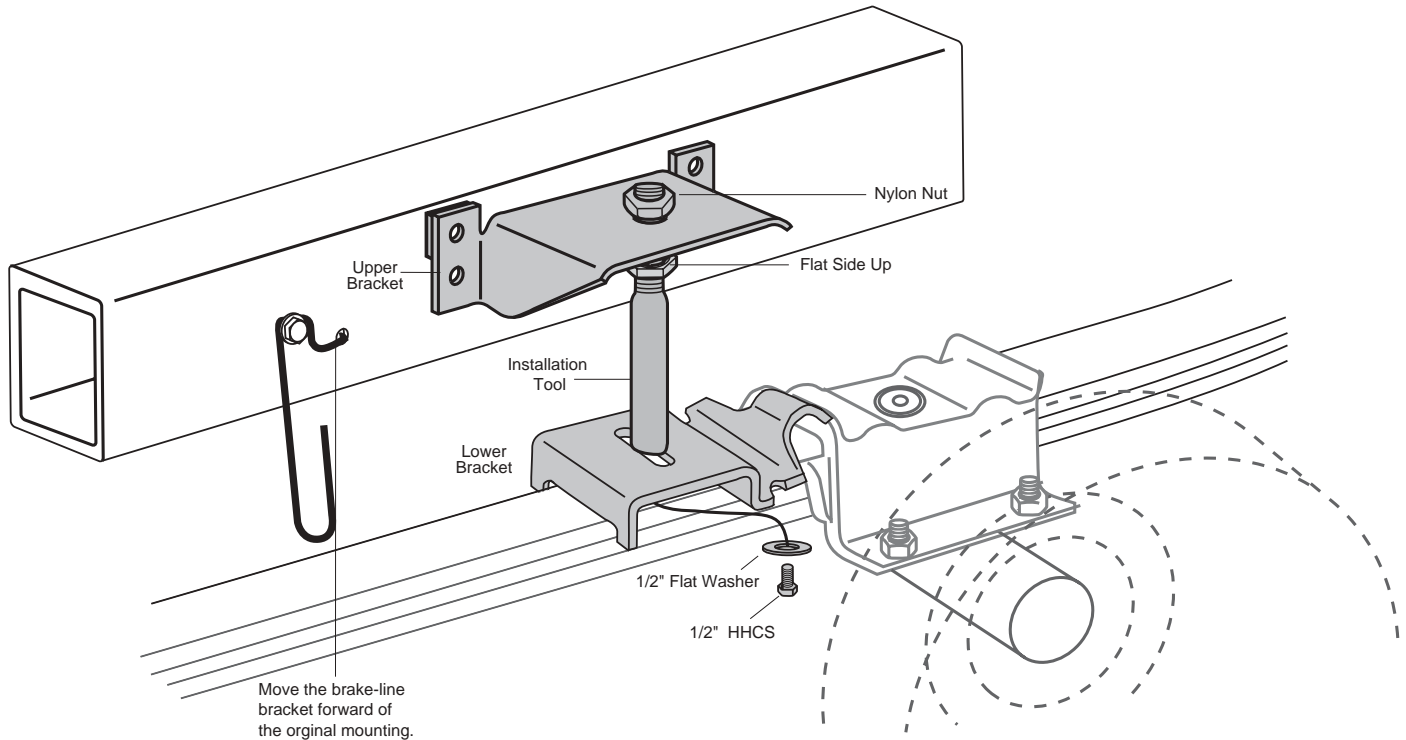

Figure 1
1. Place the upper bracket (B) onto the threaded end of the alignment tool (D). Thread a nylon nut (E) onto the tool to hold the bracket in place. Leave loose at this time (Figure 1).
2. Using a 1/2" bolt (F) and flat washer (G), attach the lower bracket (C) to the bottom of the installation tool.
Refer to figure 1 when relocating the brake-line bracket.
The brackets can be mounted anywhere within the threaded range of the installation tool (Figure 1).
5. Install the pre-coated air fitting (O) into the thread post of the air spring (A). Tighten finger-tight plus 1 1/2 turns.
- 7. Insert the top of the air spring through the hole in the upper bracket and attach with a hex nut (E) (Figure 1). Leave loose at this time.